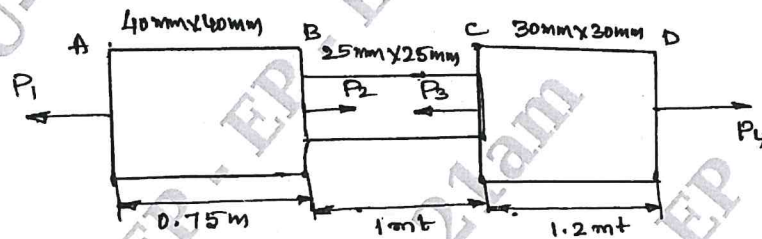

Fig.Q1(b)
- b. A member ABCD is subjected to point loads  $P_1$ ,  $P_2$ ,  $P_3$  and  $P_4$  as shown in Fig.Q1(b). Calculate the force  $P_3$  necessary for equilibrium if  $P_1 = 120$  KN,  $P_2 = 220$  KN, and  $P_4 = 160$  KN. Determine also the net change in the length of the member. Take  $E = 200$  GPa.